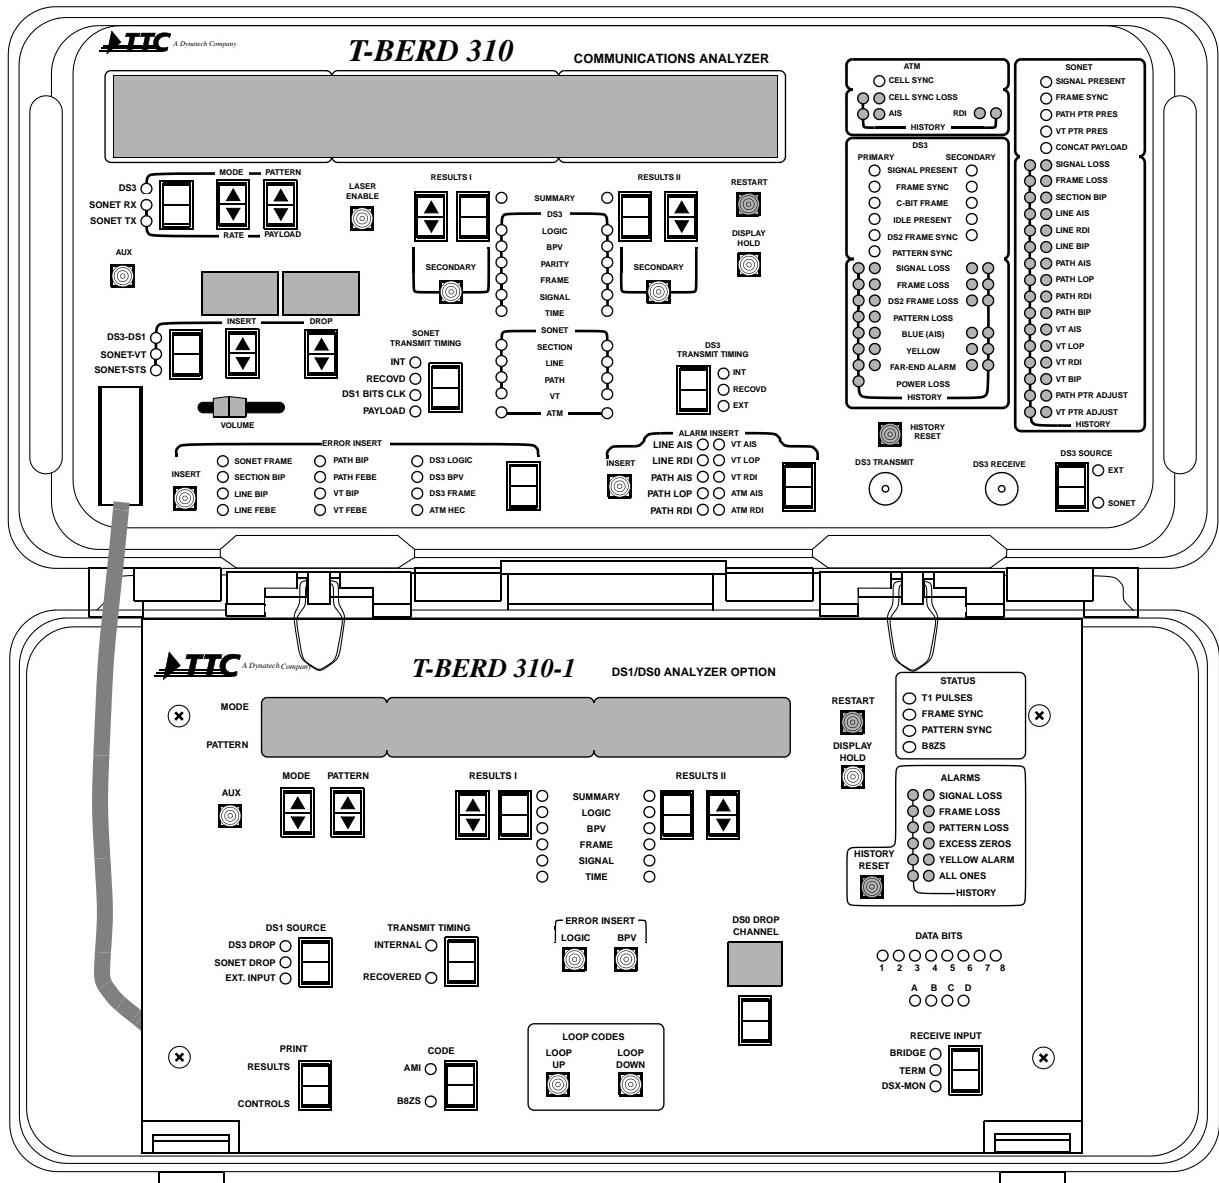

Figure 1-1. Opening the T-BERD 310
- 2. Raise front of instrument (see Figure 1-1)**